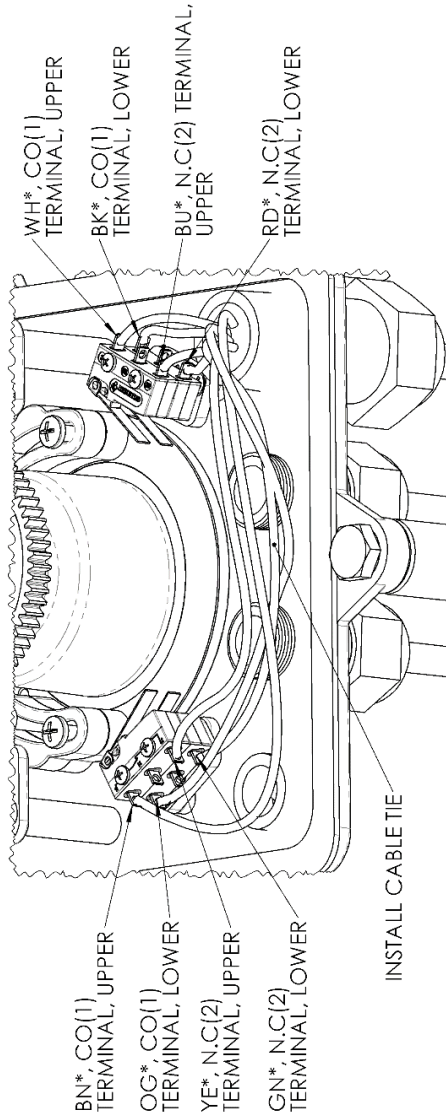

Figure 20: Default factory wiring, four switch model, 7174-BG shown.
- a. The actuation lever of microswitch ② is clear of any obstructions through its range of motion.
- b. The microswitch ② actuation lever is depressed enough to actuate the switch contacts when the RFU is at its limit:
This can be done by checking for no continuity across the Normally Closed(N.C) terminal 2 and the Common(C) terminal 1. See Figure 20 for clarity on terminals being checked. When the switch is depressed, terminal 1 and 2 should have no continuity.
18. When the microswitch position is determined to be correct, tighten the microswitch screws ③ to 0.85 lbs.in [0.1Nm]. The switch trip cam screws should be tightened secure.
19. The microswitches come wired as shown in Figure 20. Compare this to the wiring noted in the original switches that was noted in step 1. If there is any difference, make necessary adjustments at the junction box to ensure the same functionality of the microswitches. Do not de-solder the cable at the microswitch terminal and adjust conductor position.
- a. Refer to Figure 20 for the recommended wire routing route to ensure the wiring are free of any moving parts.
- i. Attach the cable ties as shown in Figure 20.